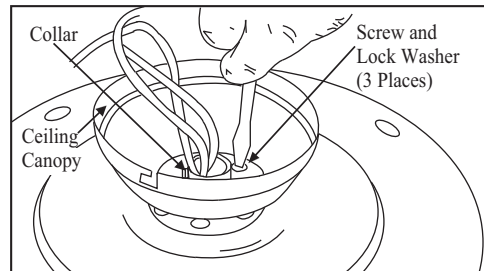

Figure 9
4. Then proceed to place the ceiling canopy over the collar at the top of the motor. (Figure 9)
5. Align the mounting holes with the holes in the motor and fasten using the screws and lock washers removed in step 3. (Fig. 9)